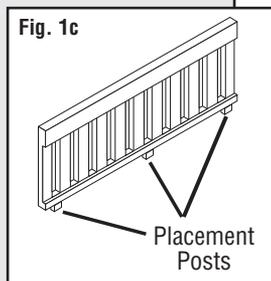

Fig. 1c
- Be careful to not remove placement posts (**Fig. 1c**).